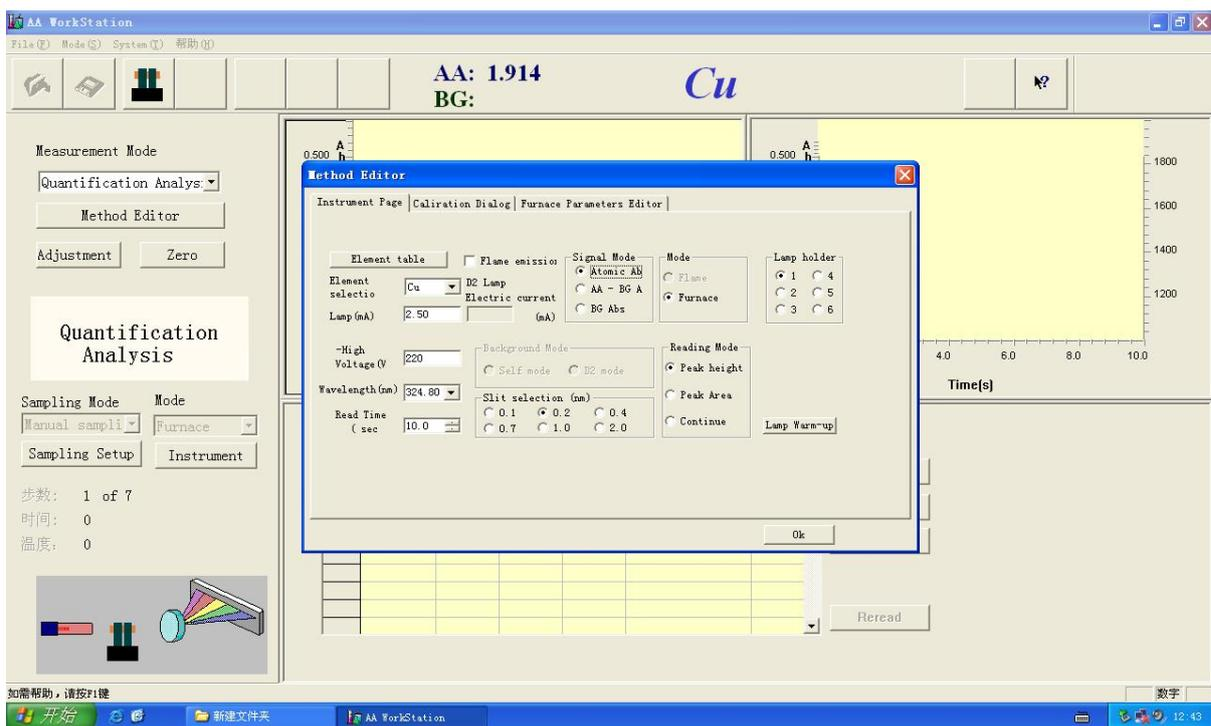

Figure 4-25
11. "Slit Selection(nm)", only can select one among 0.1,0.2,0.4,0.7,1.0,2.0(Figure 4-25)